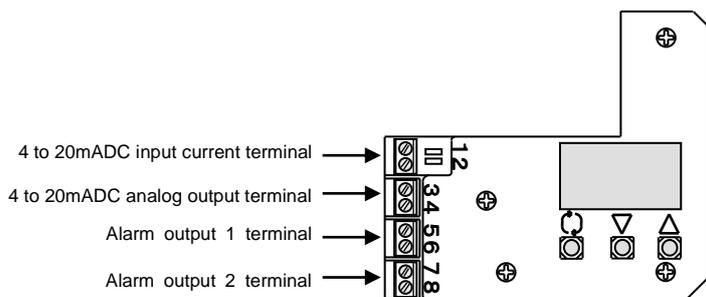

Fig. 9
- (1) Remove the positioner body cover.
- (2) Connect input current wiring from an adjusting meter (controller) and each output wiring following Fig. 9*1.